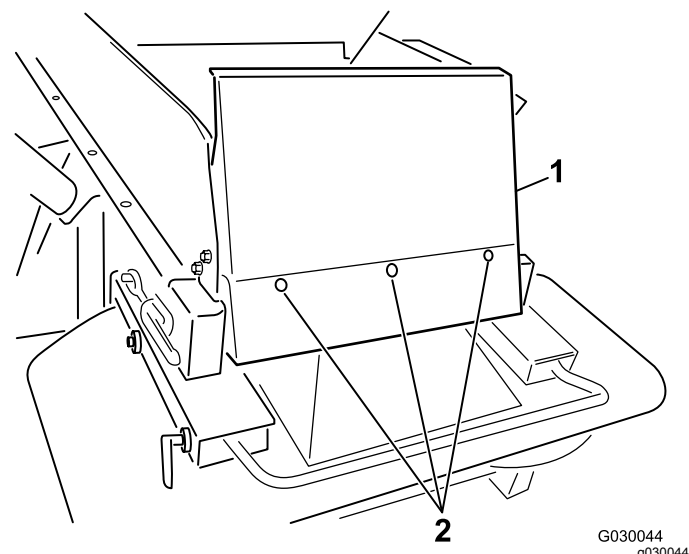

Figure 7
6. Install the hopper guard using the supplied button-head bolts (1/4 x 5/8 inch) and nylon locknuts (Figure 7).